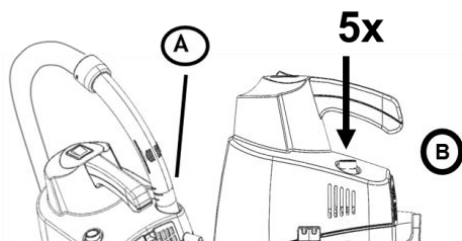

Figure 5
15. Figures 5, 6. Use Filter Cleaning System to maintain performance before and after each use. When working with fine dust or cold ash, the filters can get clogged, decreasing the performance of the vacuum as well as the life of the filters. To operate the Filter Cleaning System:
- b. Block the inlet (A) and wait 5 seconds. This will close the air flow and build up pressure in the tank.
- c. Push the button (B) 5 times fast.